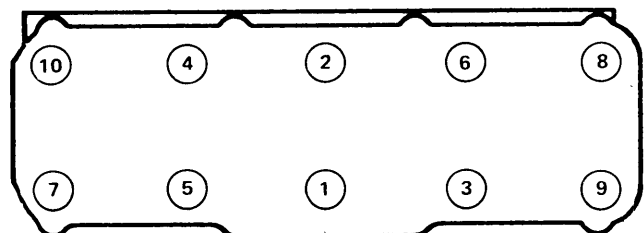

Fig. 2 Cylinder Head Torque Sequence
5) Remove cylinder head cover. Remove cylinder head bolts. **NOTE** – Follow reverse order of cylinder head tightening sequence (see Fig. 2).
Installation – 1) Install locating dowels, if removed, in cylinder head. Install new head gasket. Install cylinder head to block and tighten bolts in sequence (see Fig. 2). Torque to 65 ft. lbs.
Cylinder Head Retorque – 1) Remove cylinder head cover. Follow cylinder head bolt tightening sequence (see Fig. 2). Loosen each bolt $\frac{1}{8}$ turn before retightening to 73 ft. lbs.